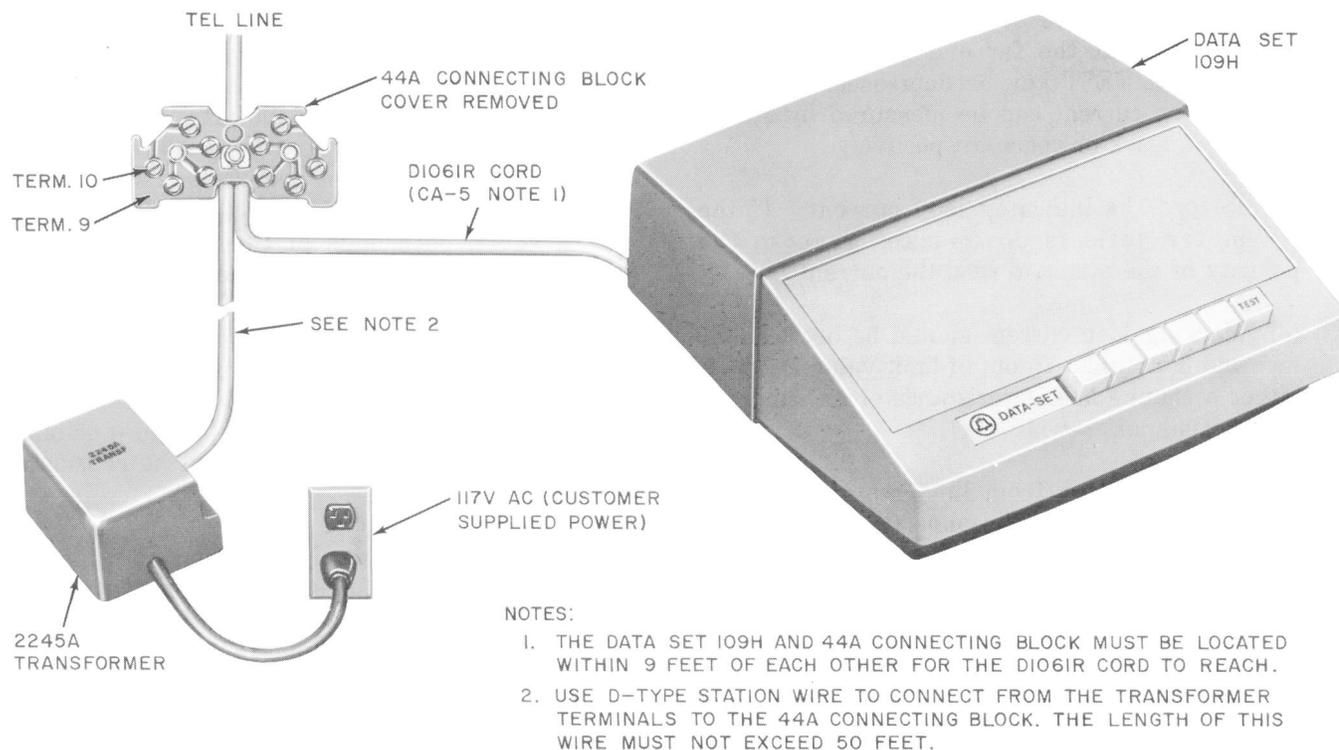

Fig. 2—Typical Data Set 109H-Type Installation Showing the Line Terminals of the 44A Connecting Block
- (1) Remove the cover from the 44A connecting block to gain access to the line terminals (terminals 9 and 10, Fig. 2).
- (2) Set the KS-20538-L1 VOM to measure dc current.
- (3) Connect a KS-20538-L1 VOM (or equivalent) in series with the line.
- (4) Establish voice communication with the customer at the far end and request that the data set TEST key be depressed. Mark or triple space current can be measured by simply sending a mark or space, respectively.
- (5) Record the indicated loop current. If the meter deflects down-scale, reverse the polarity of the meter to read the current.
- (6) Marking loop current should be between 3.0 and 3.02 mA. An out-of-limit value indicates either a change in line resistance or an abnormal data set signal.
- (7) Remove meter from line, restore the line, and replace the 44A connecting block cover. Request that the TEST key at the far end be returned to normal.
- (1) Obtain access to the data set line terminal connections by removing the cover on the 44A connecting block. The line connectors are made to terminals 9 and 10 (Fig. 2).
- (2) Establish voice communications with the telephone company employee at the far end.
- (3) Request that the line be shorted at the far-end data set.
- (4) Remove one side of the line from the data set terminal block (44A connecting block).
- (5) Use a VOM to measure the line resistance.
- (6) Record the resistance measured in (5).
- (1) Remove the cover from the 44A connecting block to gain access to the line terminals.
- (2) Open the line by removing one side of the line from the terminal block (with terminal 9 or 10, Fig. 2).
- (3) Connect the positive lead of the VOM to terminal 10 and the negative lead to terminal 9, and set the meter to measure voltage.